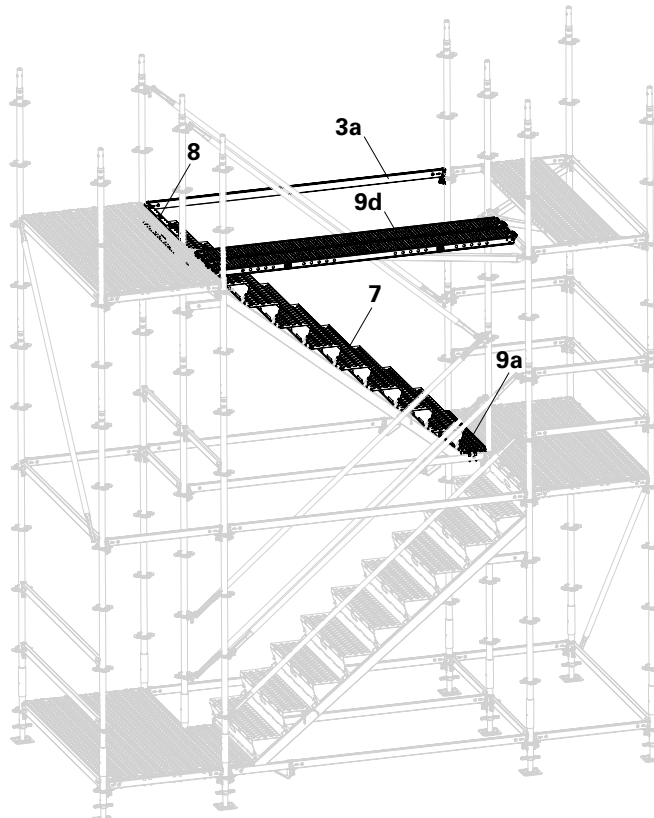

Fig. A3.07
3. Interlock End Step UAR (**8**) with the last Step UAR and engage with Horizontal Ledger UH (Fig. A3.07)
6. Install Horizontal Ledger UH 250 (**3a**) and the assembly aid Steel Deck UDG 25x250 (**9d**) from the stairs. (Fig. A3.07)